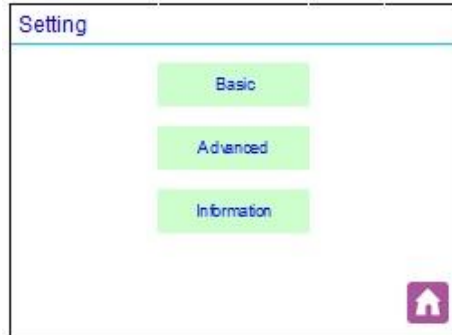

Figure 12 - Settings Screen
- a. Enter into the Settings screen as shown in **Figure 12**.